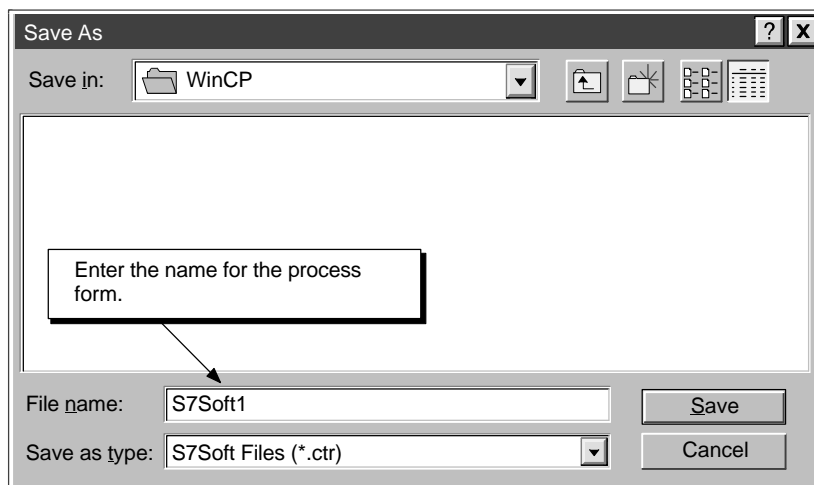

Figure 8-6 Saving a Process Form for Computing
1. Select the **File ► Save As** menu command to display the Save As dialog box. See Figure 8-6.